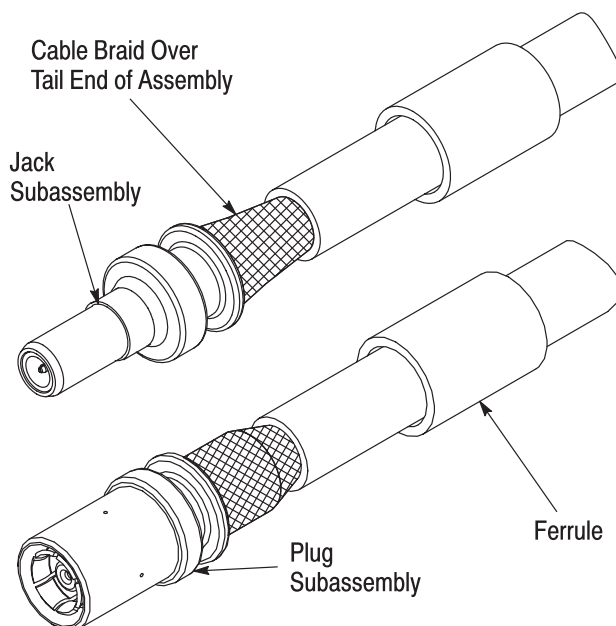

Figure 4
*Be certain that the cable braid is positioned over the tail end of the subassembly. Refer to Figure 4.*